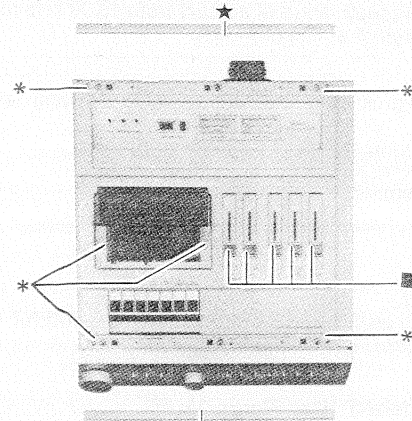

Figure 5
- Lift up the two screw covers using each opening space marked (★) and remove six screws marked (*) as shown in figure 5.
- Take off five knobs marked (■) as shown in figure 5.